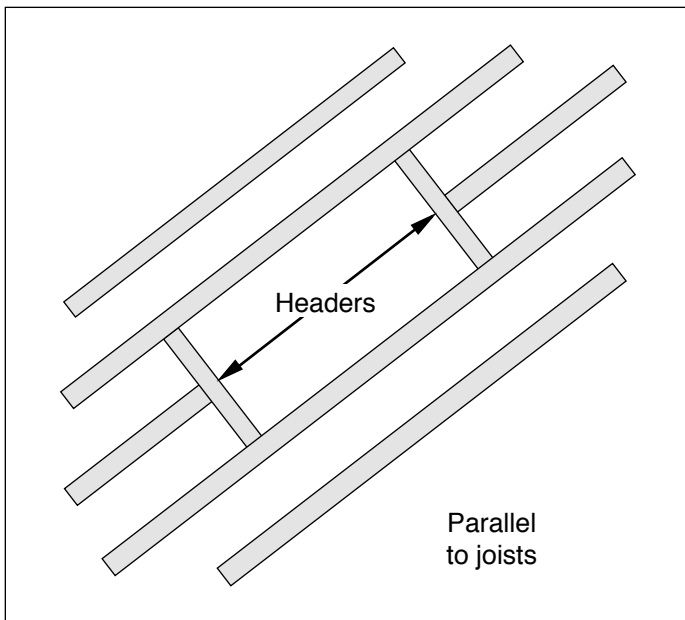
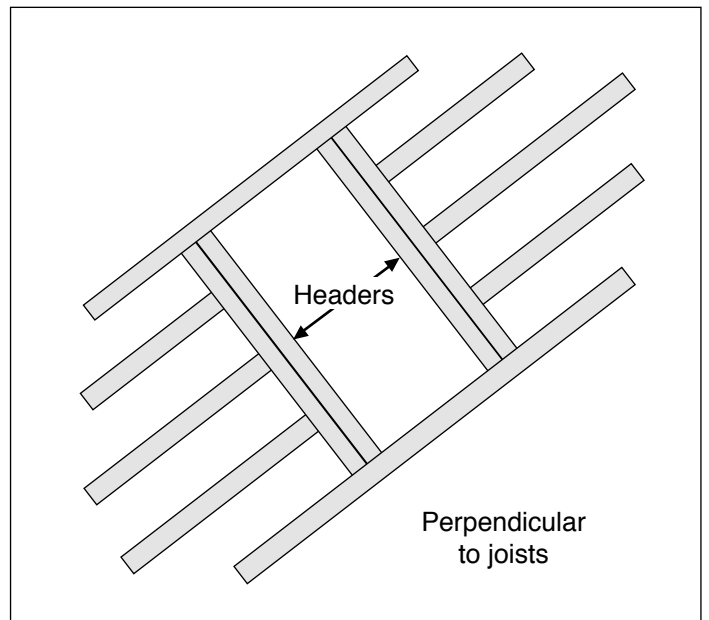

Figure 3
Figure 4
- \* Cut and securely nail headers (blocking) of the same joist dimensions to the joists as shown in Figures 3 and 4. Be sure to nail all cut joists to headers. When installing perpendicular to joists as in Figure 4, it is advisable to double up the headers for more strength and rigidity.